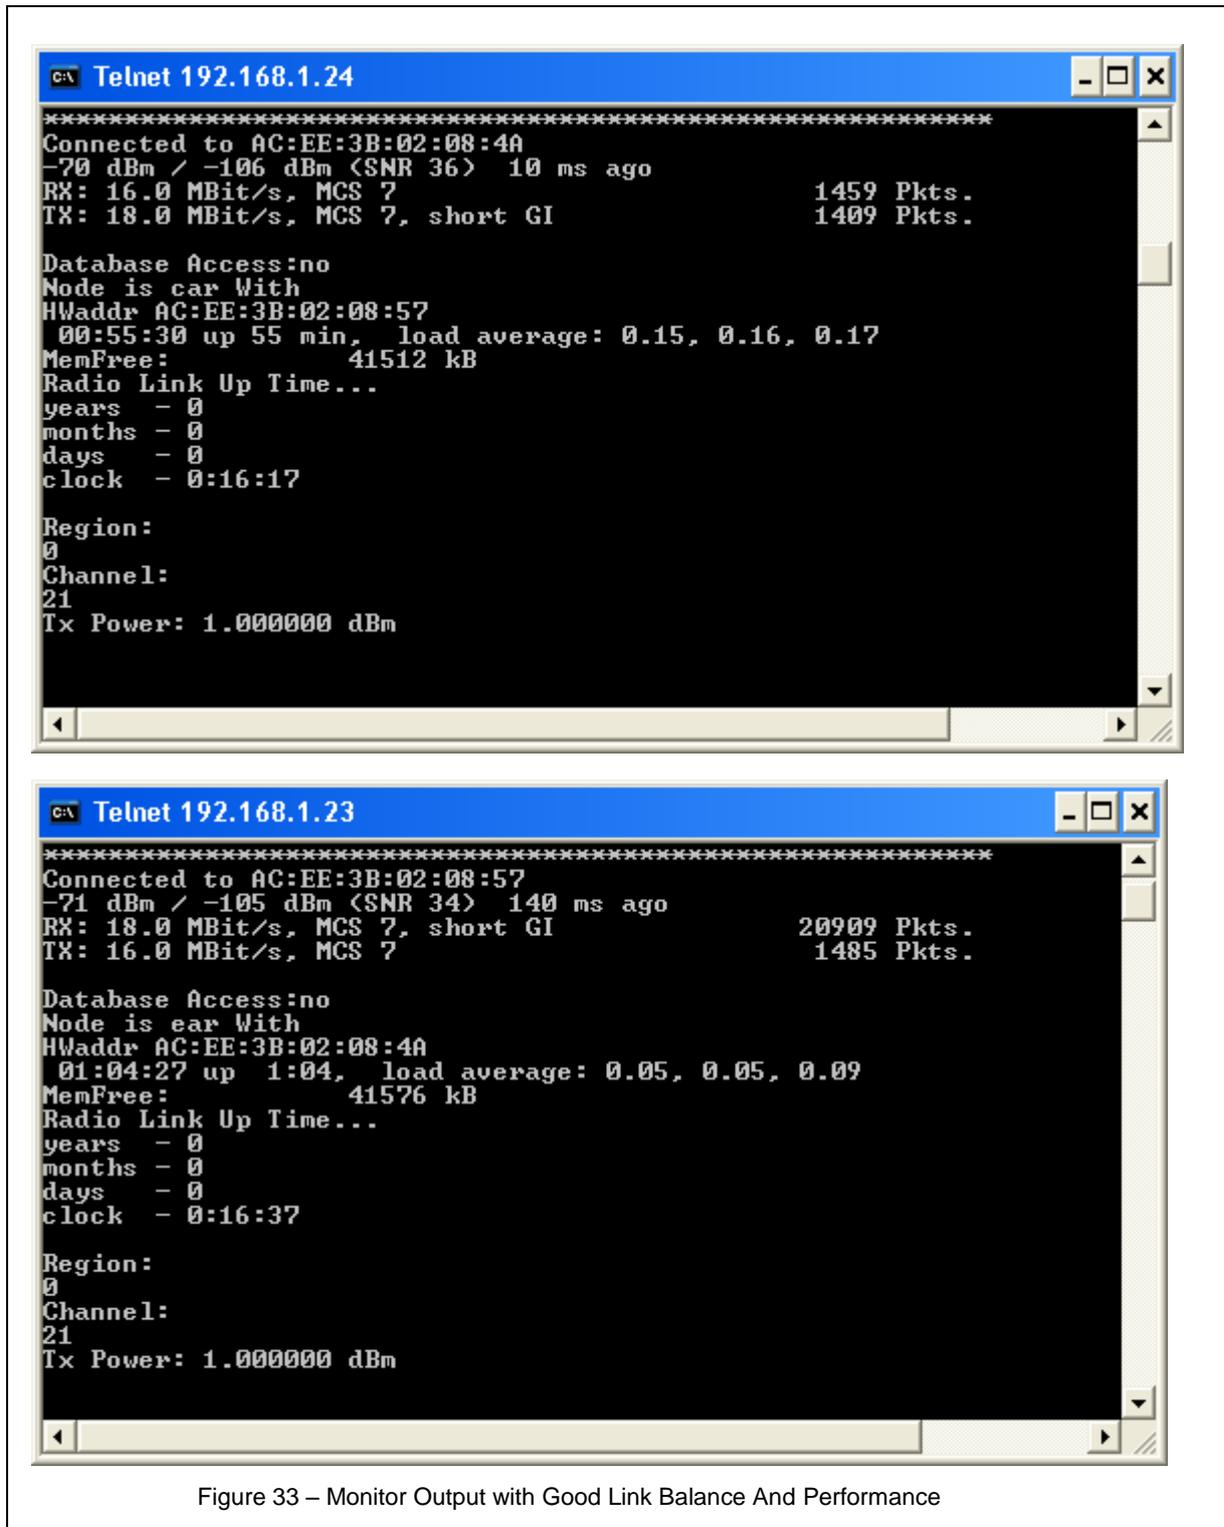

Figure 33 – Monitor Output with Good Link Balance And Performance
21.5 Figure 33 shows after fine tuning, both CAR and EAR have very good link performance with MCS at 7.